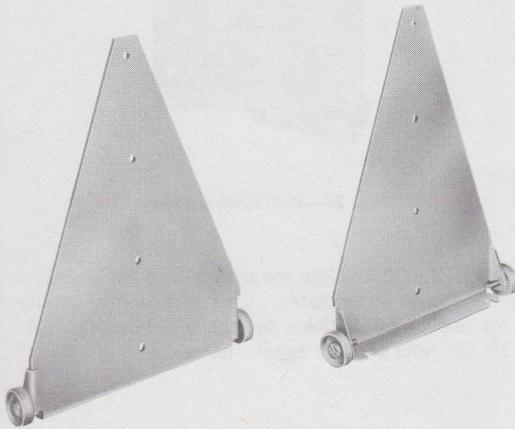

Fig. 39—Bracket Assembly Per ED-69366-50, Group 2
6.03 The bracket assembly per ED-69366-50, Group 2 (Fig. 39) has two wheel-equipped support plates needed to install a 26A apparatus mounting on the floor or in the floor-supported cabinet per ED-69366-50, Group 1. Eight RHM screws are furnished with the assembly. Nylon wheels are